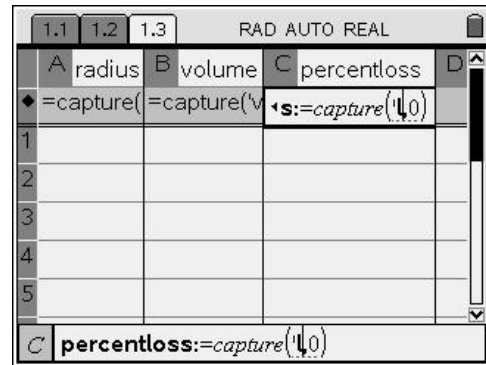

Figure 29
29. Repeat the above procedure to collect the variable, “v” in the volume column and the variable, “l” in the percentloss column. (Figure 29) (Variables must be selected from the list, and variables and lists must have different names.)